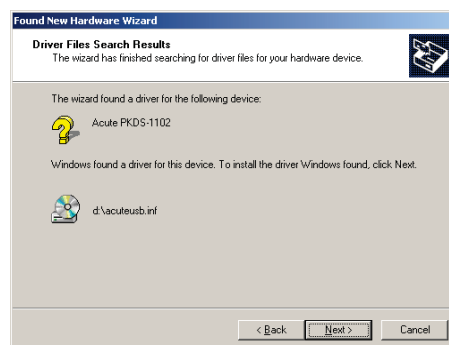

Figure 4
- (5) Click “Next” when a driver is found (Figure 4).